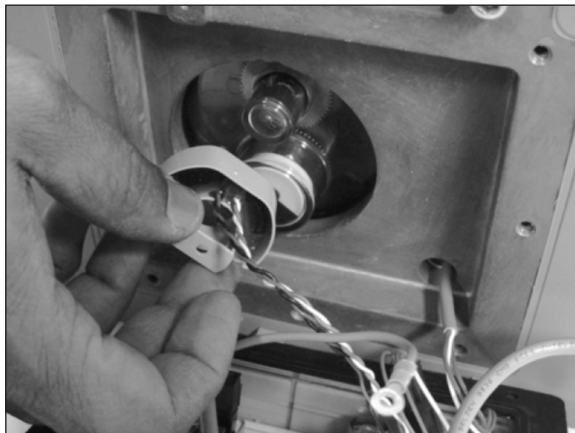

Figure 9.12 Example - Remove Wiegand assembly.
5. Gently pull out the Wiegand assembly from its location as shown in Figure 9.12 Example.